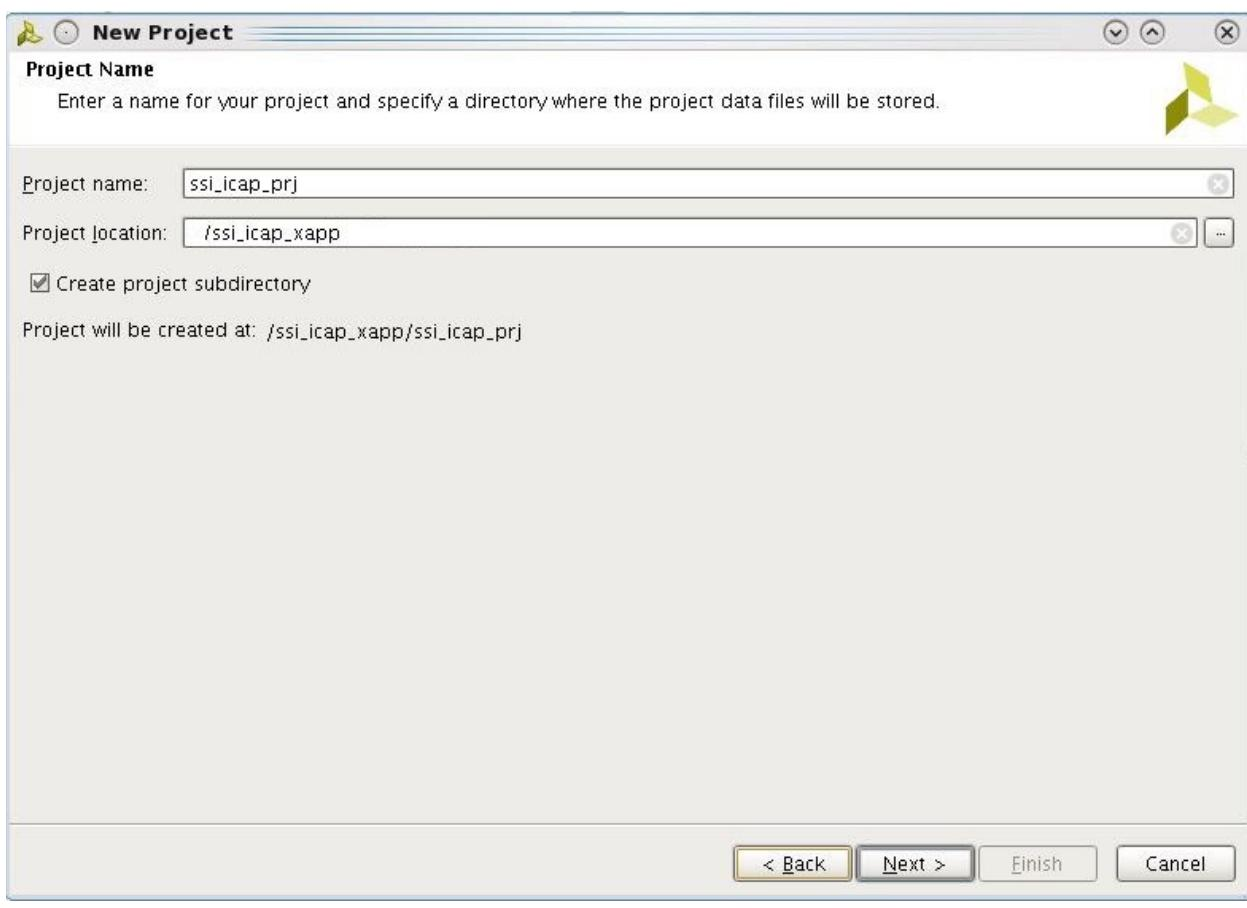

Figure 3: Create a New Project Wizard
4. As shown in Figure 3, enter the project name, *ssi_icap_prj*, and place the project in the location <Extract_Dir>. The *Create project subdirectory* must be checked. Click *Next*.